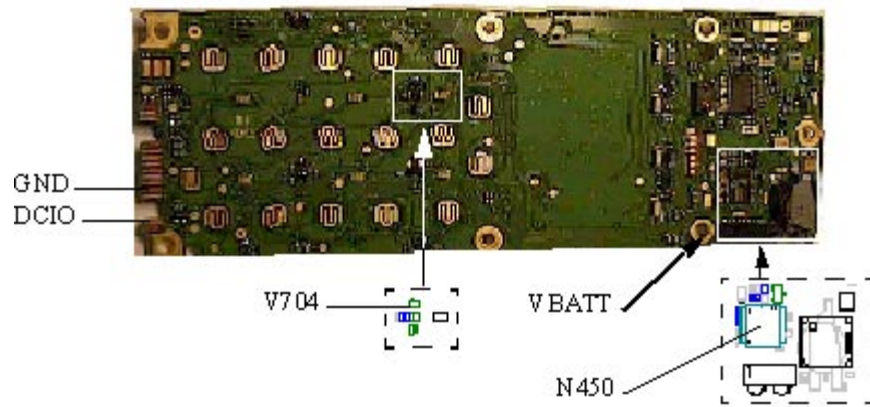
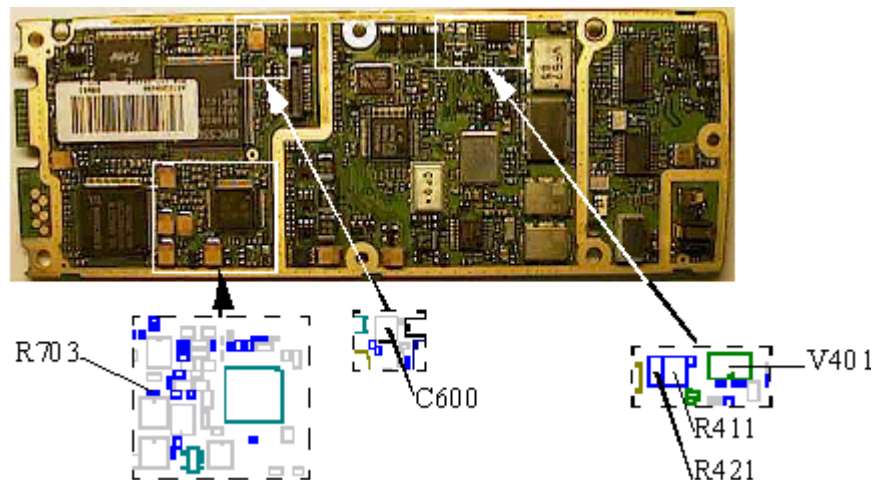

Fig. 6.1
Fig. 6.2
Check the VDIG (~3.2V) voltage at the marked side of C600 (fig. 6.2), VRAD (~3.8V) at N450 pin 13 (fig. 6.1) and the resistance of R703 (~0 ohms, class A, fig. 6.2).
Open the phone and check for liquid damages. Make sure the system connector pads aren't burnt and that there isn't oxide on them, especially GND (pad 10, fig. 6.1).
Measure the resistance from DCIO to VBATT (~390 ohms, fig. 6.1).
- If it's too high, measure the resistance of R421 (class B, ~0.1 ohms) and R411 (class A, ~390 ohms, both in fig. 6.2).
Give the board power and start it up by grounding pin 6 of N450 (fig. 6.1).
- If it doesn't start, replace V401 (class A, fig. 6.2). If that doesn't help, replace V704 (class A, fig 6.1).
- If the resistance is too high, measure the resistance of R421 (class B, ~0.1 ohms) and R411 (class A, ~390 ohms, both fig. 6.2).